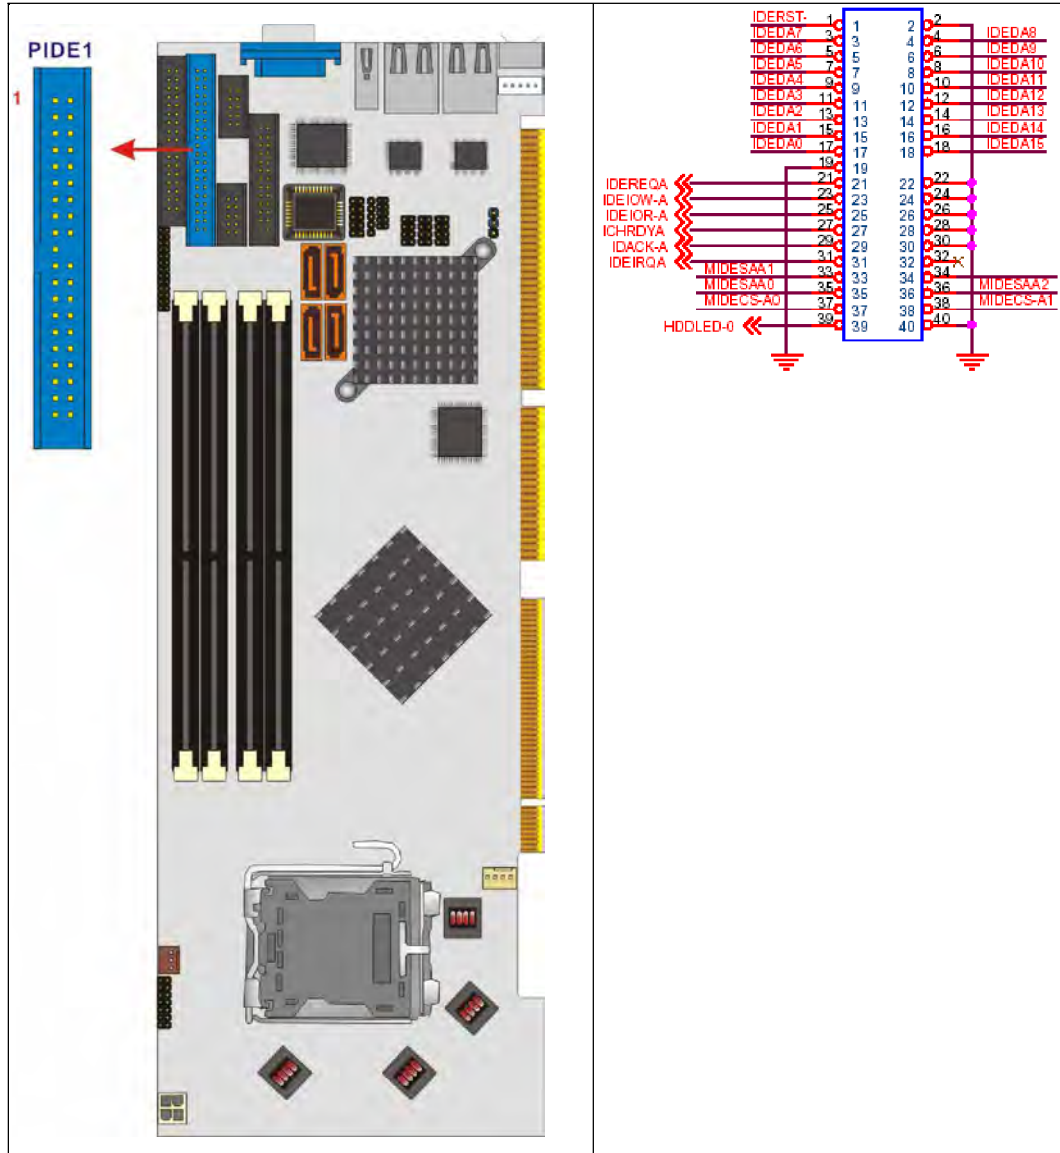

Figure 3-10: IDE Connector Location
- CN Location:** See **Figure 3-10**